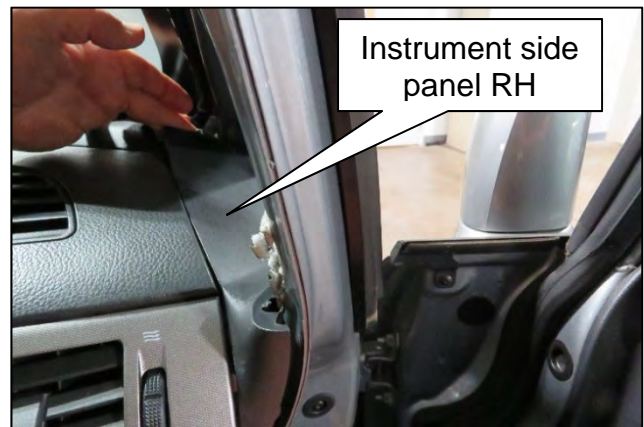

Figure 17
17. Release the pawls and remove the instrument side panel RH, as shown in Figure 17.